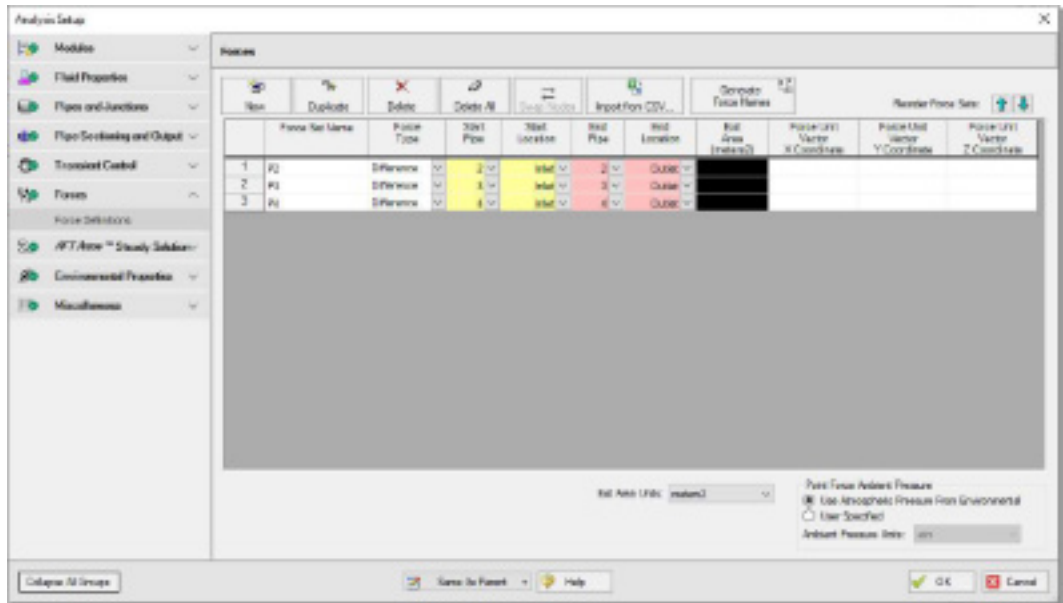

Figure 5.6 Completed Force Definitions panel in the Analysis Setup window
- **Define a force set by clicking New**, selecting the Force Type (in this example, we will be using Difference because all force sets are between 90 degree elbow pairs), entering a name, and defining the starting and ending locations of the force set. Set up the force sets as shown in Figure 5.6. Click OK to save and close the Analysis Setup window.